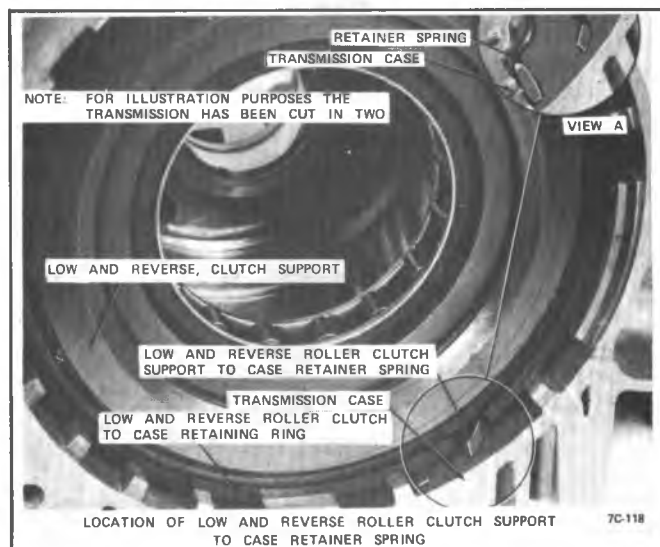

Figure 7A3-121 Retainer Location
3. Install low and reverse clutch support assembly pushing firmly until support assembly is seated past top of low and reverse clutch support retainer spring so retaining ring can be installed. See Figure 7A3-122.